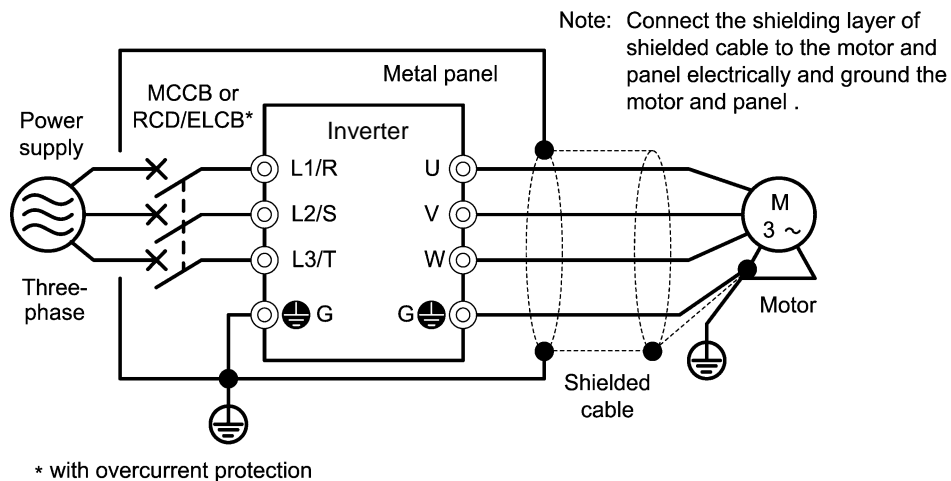

Figure G-1 Mounting the inverter in a Metal Panel
- (1) Mount the inverter and the filter on a grounded panel or metal plate. Use shielded wires for the motor cable and route the cable as short as possible. Firmly clamp the shields to the metal plate to ground them. Further, connect the shielding layers electrically to the grounding terminal of the motor.
- (2) For connection to inverter's control terminals and for connection of the RS-485 communication signal cable, use shielded wires. As with the motor connections, clamp the shields firmly to a grounded panel.
- (3) If noise from the inverter exceeds the permissible level, enclose the inverter and its peripherals within a metal panel as shown in Figure G-1.